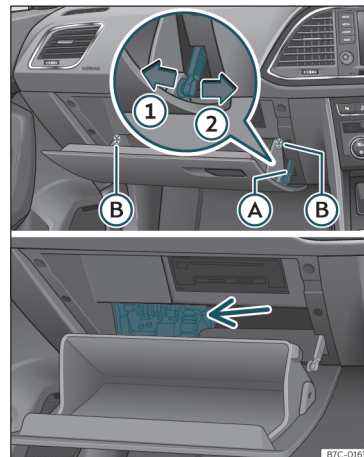

Fig. 89 Vehicles with the steering wheel on the right: access the fuse box behind the glove compartment.
- Undo the opening limiter >>> **Fig. 89** **A** in two steps: first, unlock the limiter by pulling back on it (arrow ①) and then move it gently to the right (arrow ②). Remove the guide when the cover is in the normal opening position (30°).